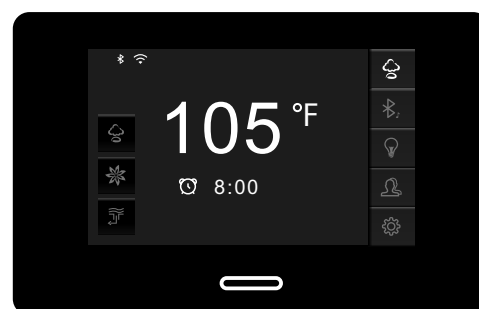

Figure 1
- A. Turn on the breaker connecting to steam generator system. Press  to turn on Control Panel. If the Control Panel has been set password, it will need password to unlock after power on. (Figure 1)